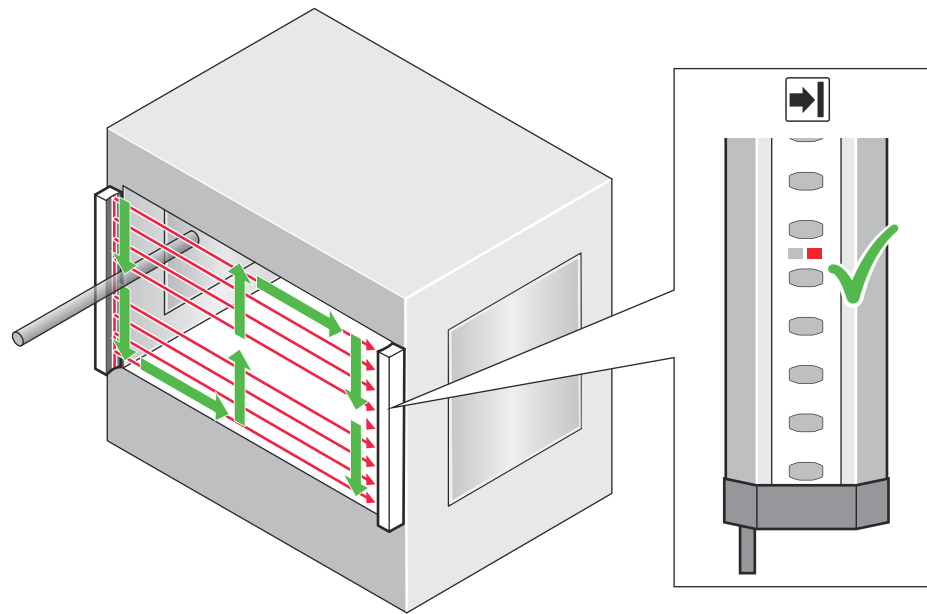

Figure 18: Test rod check: Step 1
1. Move the test rod slowly through the area to be protected (e.g., machine opening), as indicated by the arrow, see figure 18, page 27.